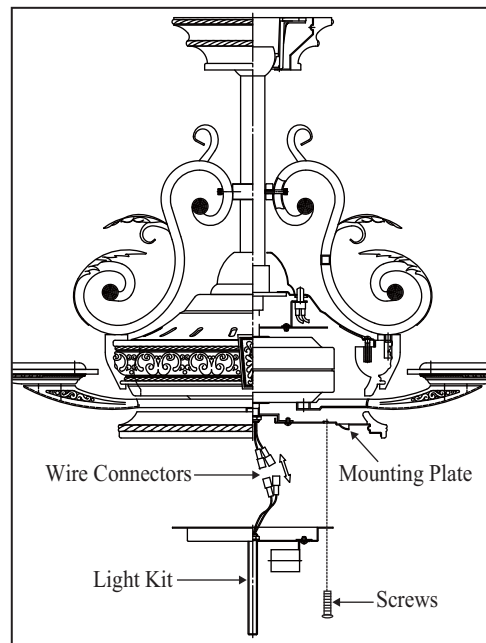

Figure 20
2. Raise and hold the light kit close to the mounting plate and proceed to do the wire connections. Connect the white wire connectors from the light kit and fan, follow the same procedure with the black wire connectors. (Fig. 20)